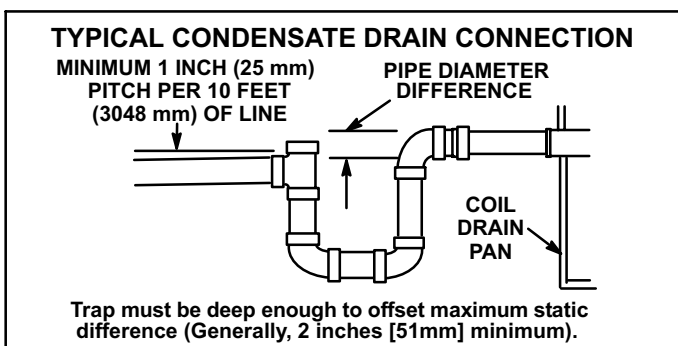

FIGURE 30
A 5" (127mm) section of PVC pipe is provided with the unit. Cut the pipe in half and use to route the auxiliary and main drains. Connect main condensate drain and route downward to an open drain or sump. Do not connect drain to a closed waste system. Refer to figure 30 for typical condensate trap configuration.
- 6- Drains should be constructed in a manner to facilitate future cleaning and not to interfere with filter access. See figure 30.